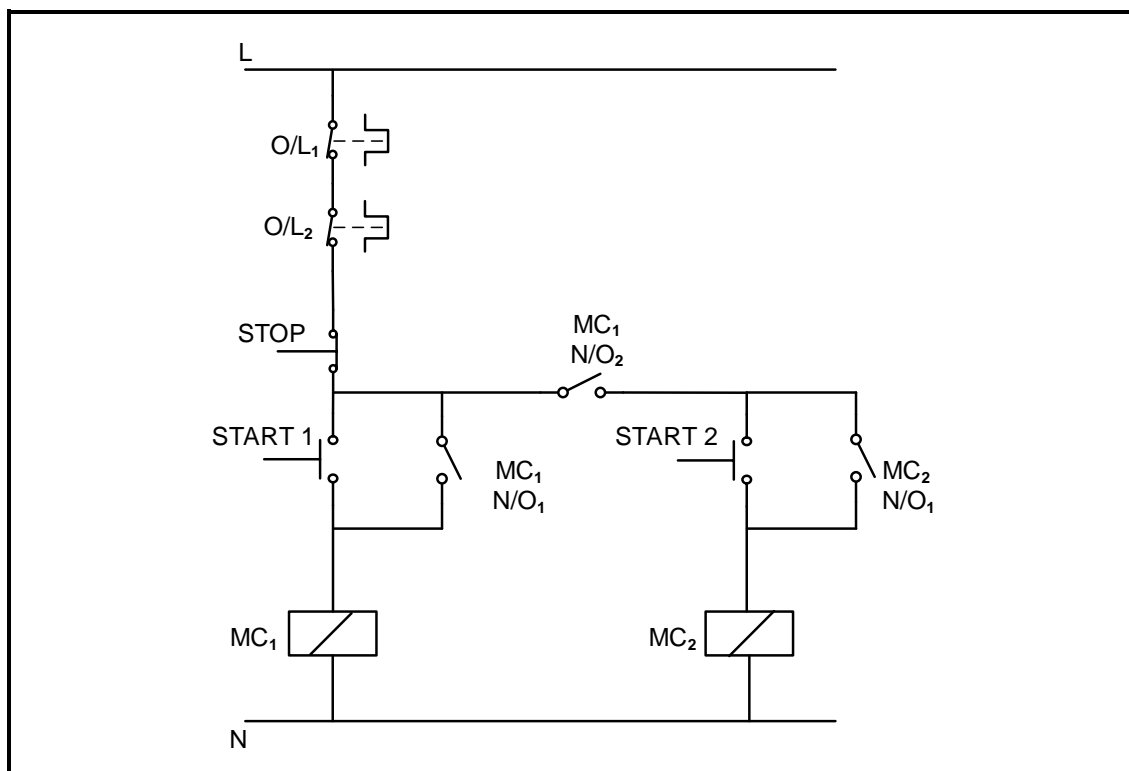

FIGURE 6.4: MANUAL SEQUENCE STARTER
- 6.4 Refer to FIGURE 6.4 below and answer the questions that follow.